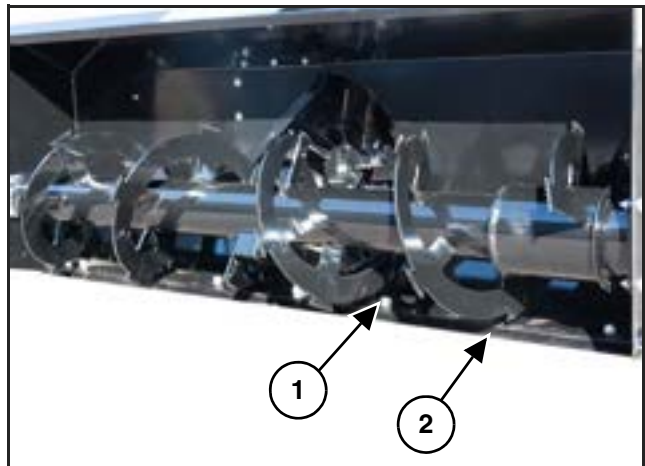

Figure 11
5. Remove all fasteners (Item 1) except the fasteners at each end of the cutting edge (Item 2) [Figure 11].